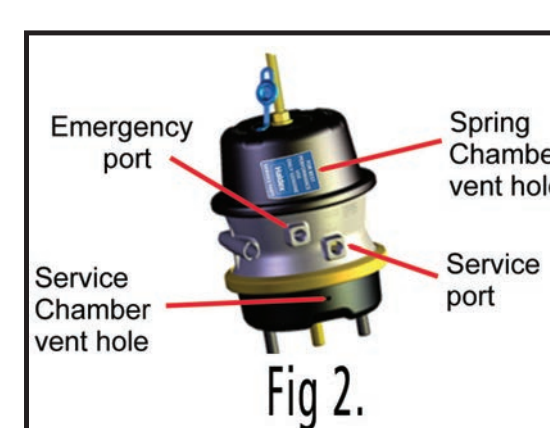

Fig. 2.
Leaks air out of the service port when air is applied to the Emergency port. See Fig. 2
- Leaks air out of Spring Chamber vent hole with park brakes released. See Fig. 2
- Leaks air out of Service Chamber vent hole with Service Brakes Applied. See Fig. 2